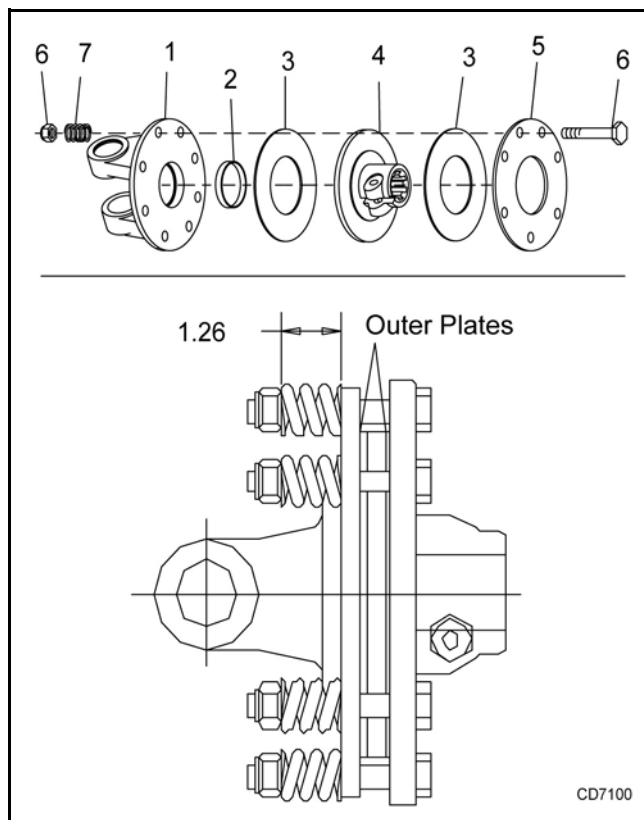

Figure 14. Slip Clutch Assembly
- Mark outer plates of slip-disc clutch as shown in Figure 14.
- Reassemble clutch and tighten bolts no more than 1/8 of a turn at a time until desired setting of 1.26" is reached as shown in Figure 14.